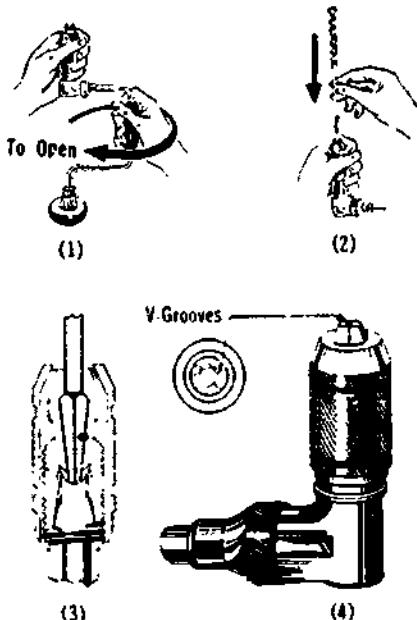

Figure 1-100. Inserting the Auger Bit
e) Figure 1-100 shows the method of inserting the auger bit into a wood brace.